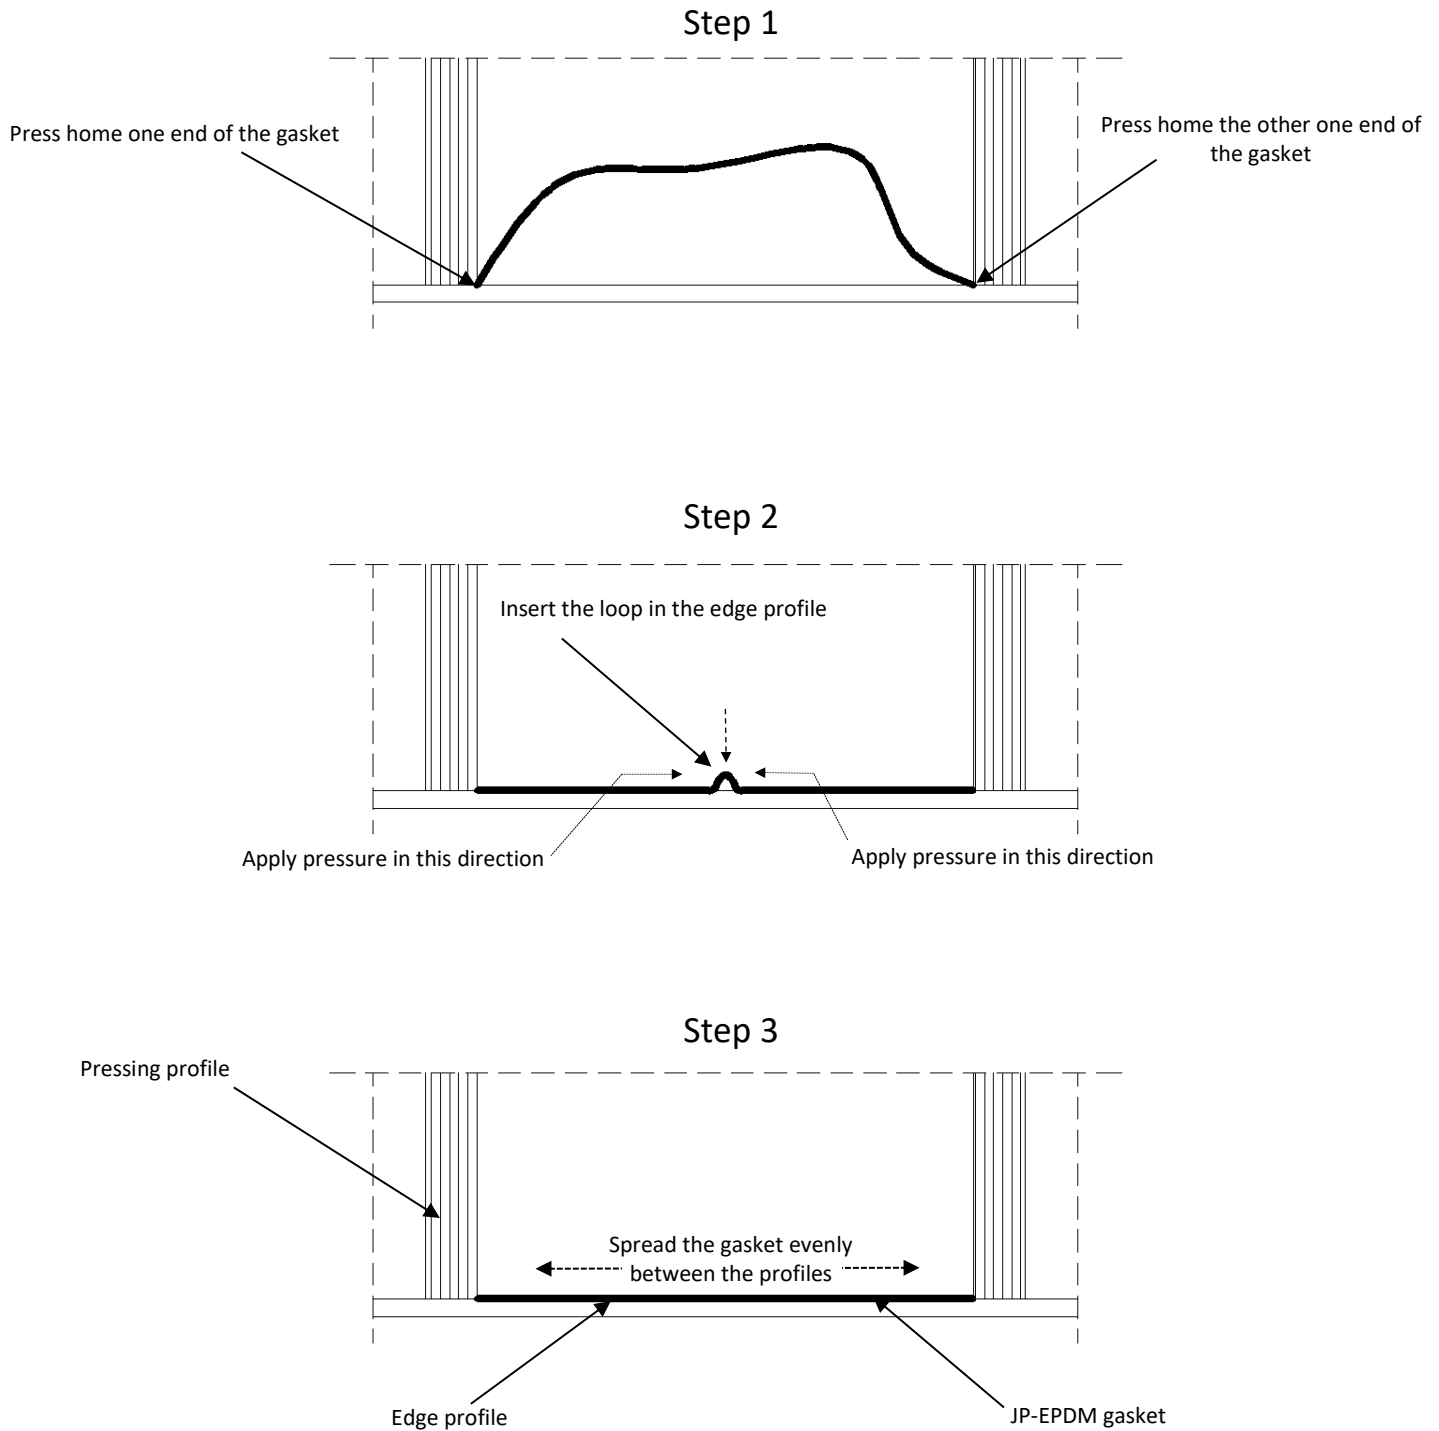

Figure 62 Method of fitting JP-EPDM gasket.
24. Press down the polycarbonate panel sections of JP-EPDM gasket between the edge profile and PCA panel according to (Figure 62 Method of fitting JP-EPDM gasket.). JP-EPDM gaskets are supplied in prepared sections. **Important! Do not trim the supplied gasket sections!** Shortening may cause the rooflight to lose its watertightness.
15. Press down the polycarbonate panel sections of JP-EPDM between the edge of the edge profile and PCA panel according to (Figure 62 Method of fitting JP-EPDM gasket.). JP-EPDM gaskets are supplied in prepared sections. **Important! Do not trim the supplied sections!** Shortening may cause the rooflight to lose its watertightness.